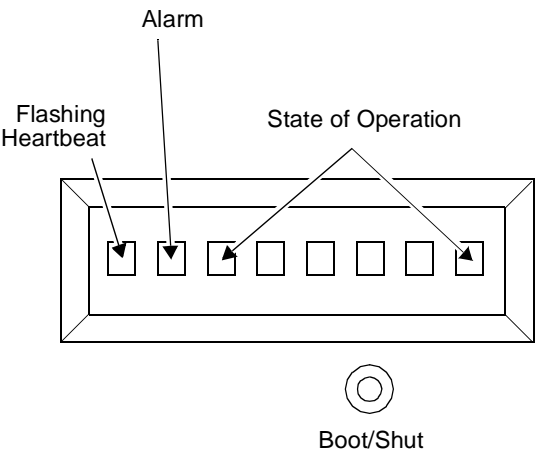

Figure 2-7. MAPD System LCD Display
7. As the MAPD system comes up, watch the Liquid Crystal Display (LCD) on the faceplate (see Figure 2-7). The LCD identifies the MAPD states and alarms.